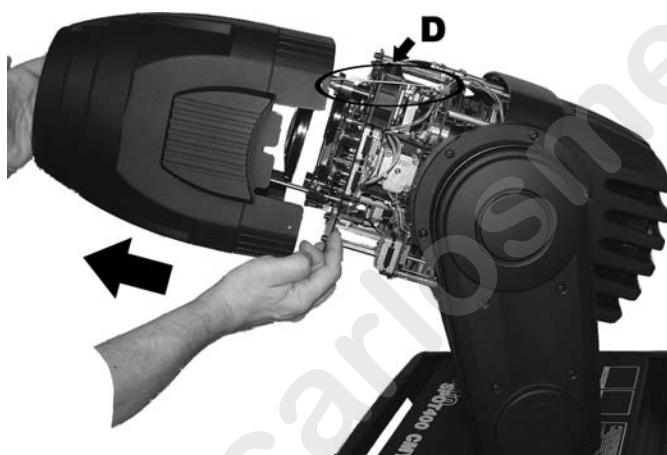

Fig. 3
2. Remove the cover in the direction indicated by the arrow (Fig. 3)